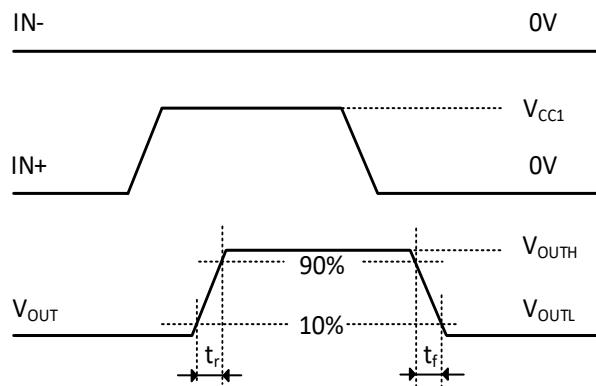

Figure21. Transition Time Waveform Measurement
(2) tr means is the time from 10% amplitude to 90% amplitude of the rising edge of the signal, tf means is the time from 90% amplitude to 10% amplitude of the falling edge of the signal. See Figure21.